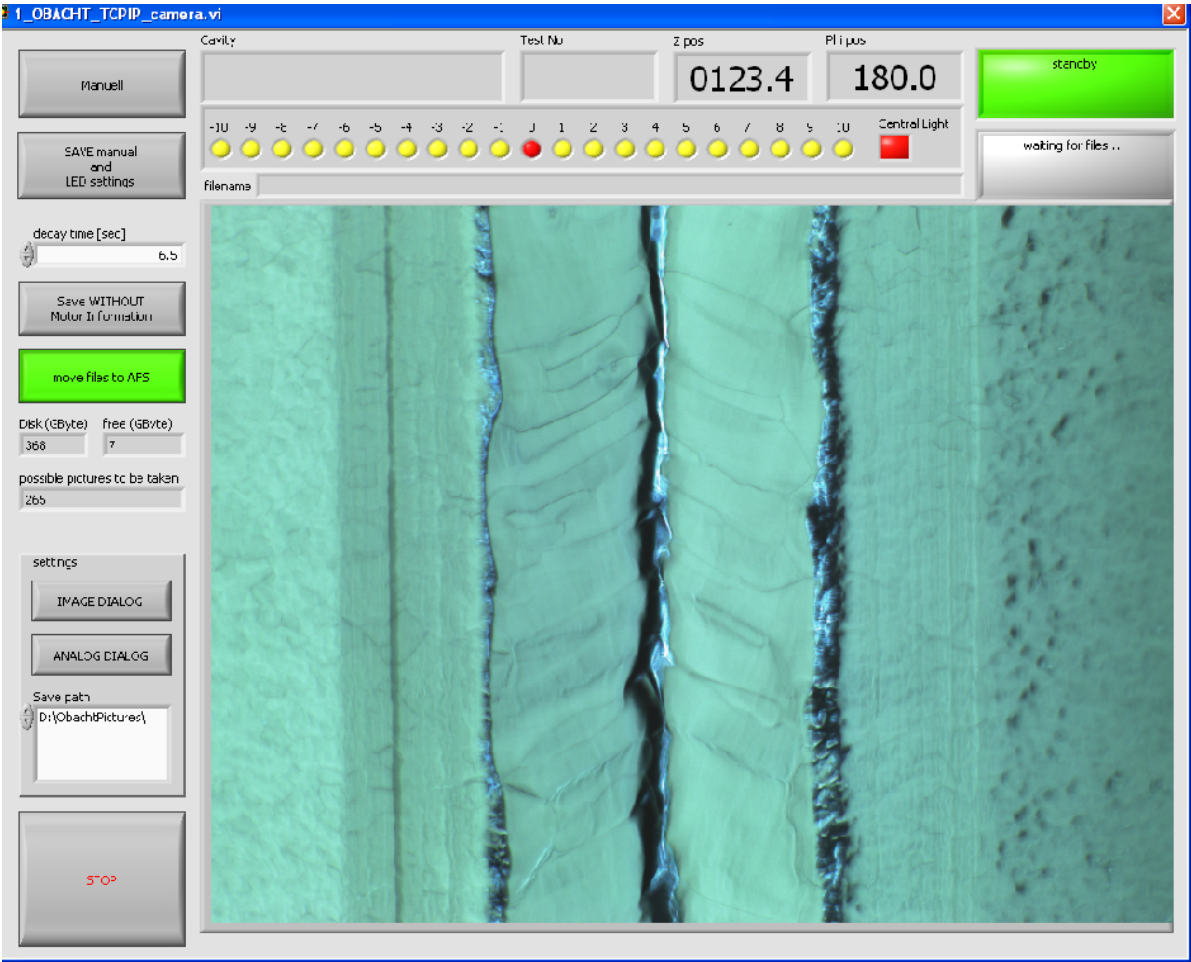

Figure 3: Screen shot of camera GUI
- a) PC2L: start `1_OBACHT_TCPIP_camera.vi` in directory `Desktop/OBACHT_camera`, the resulting GUI can be seen in figure 3. Push the button 'files will stay locally' until it is green and shows 'move files to AFS'